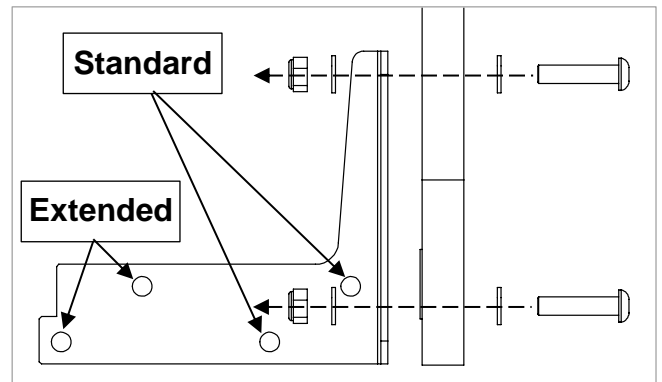

Figure 8.5
10. Fix the brackets to the footboard using the M8 x 35 bolts, nuts, and washers provided as shown in Figure 8.5. Tighten using the 5mm Allen key and a 13mm spanner.
13. For the bed at the standard length for a 200cm mattress, use the bolt holes marked 'Standard' in Figure 8.5. For the bed at the extended length for a 220cm mattress, use the bolt holes marked 'Extended' in Figure 8.5.